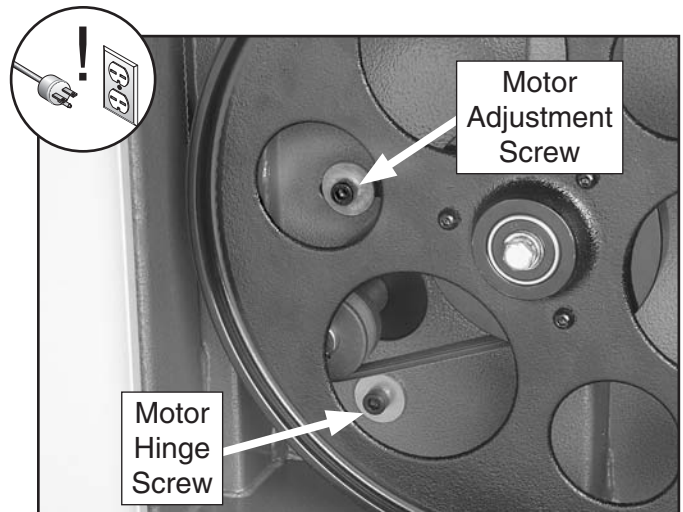

Figure 58. Motor mount screws.
3. Loosen the motor mount screws shown in **Figure 58**.
3. Loosen the motor screws shown in **Figure 58**.